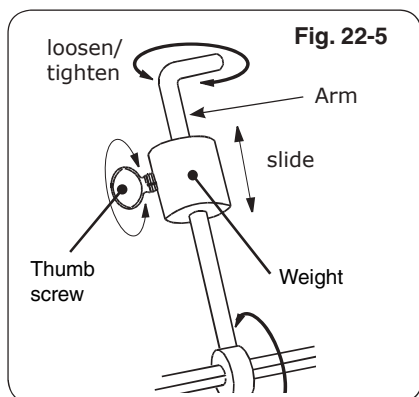
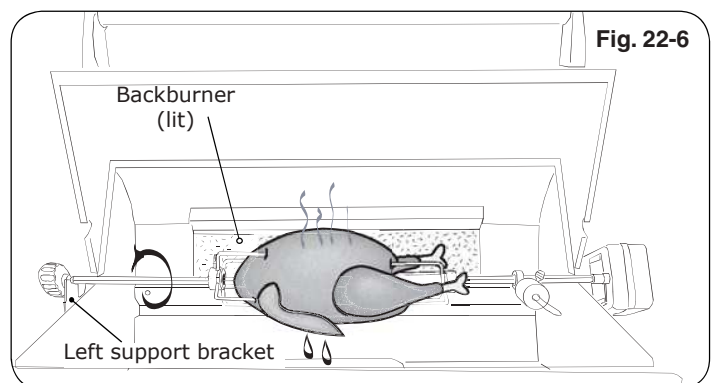

Fig. 22-5
Fig. 22-6
9. Slide the counterbalance weight up or down the arm until the rod rotates most evenly then tighten thumb screw (Fig. 22-5 and Fig. 22-6).